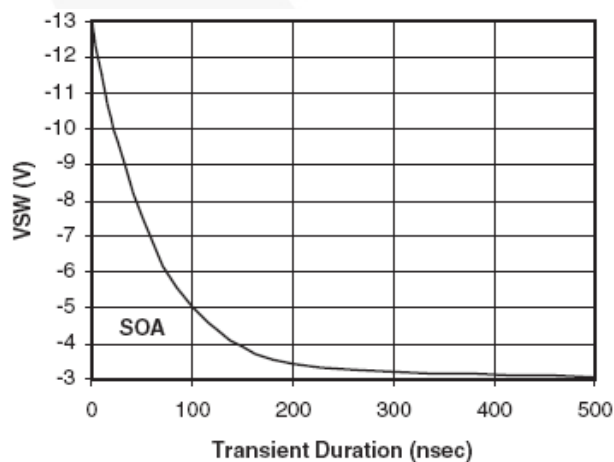

Figure 17. Negative SW Voltage Transient
- For transient derating beyond the levels indicated, refer to Figure 17 and Figure 18.